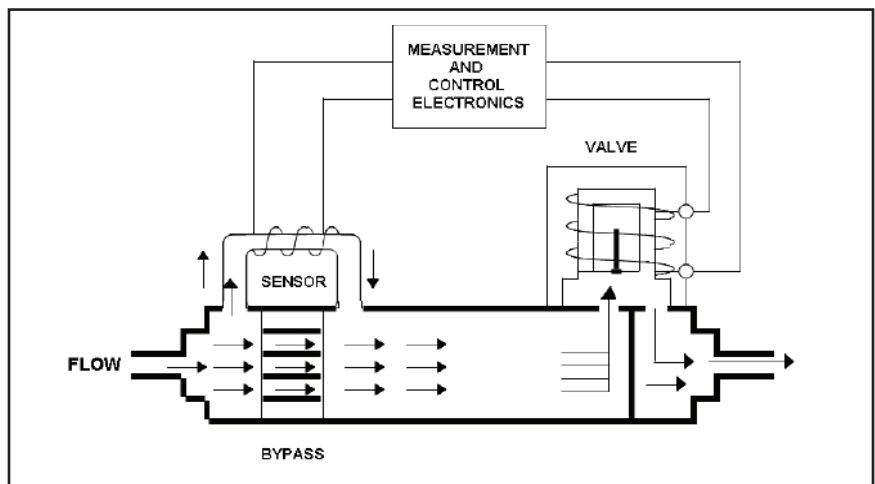
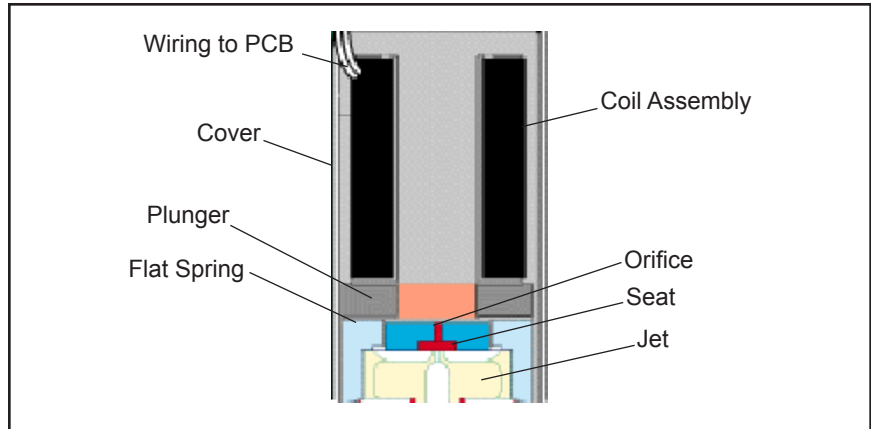

Figure 2-3 Measurement and Control Electronics
Figure 2-4 Control Valve Assembly
Control Valve Assembly (8)	Opens and/or closes gas flow through the MFC. Refer to Figure 2-3, Measurement and Control Electronics, below, and to Figure 2-4, Control Valve Assembly, on p. <?> for further details.